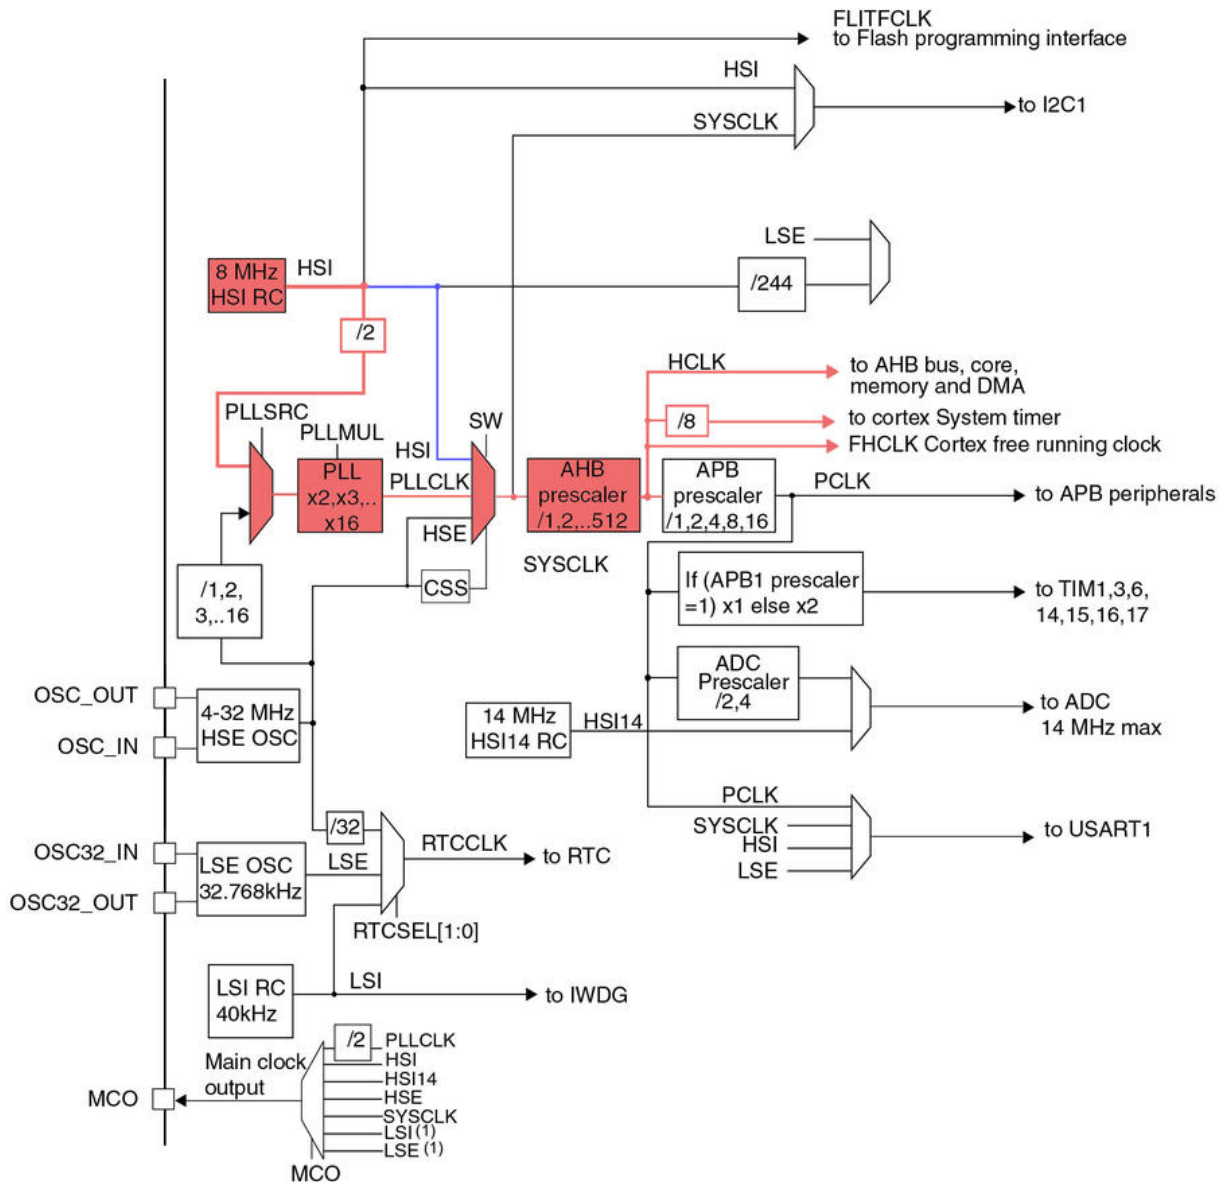
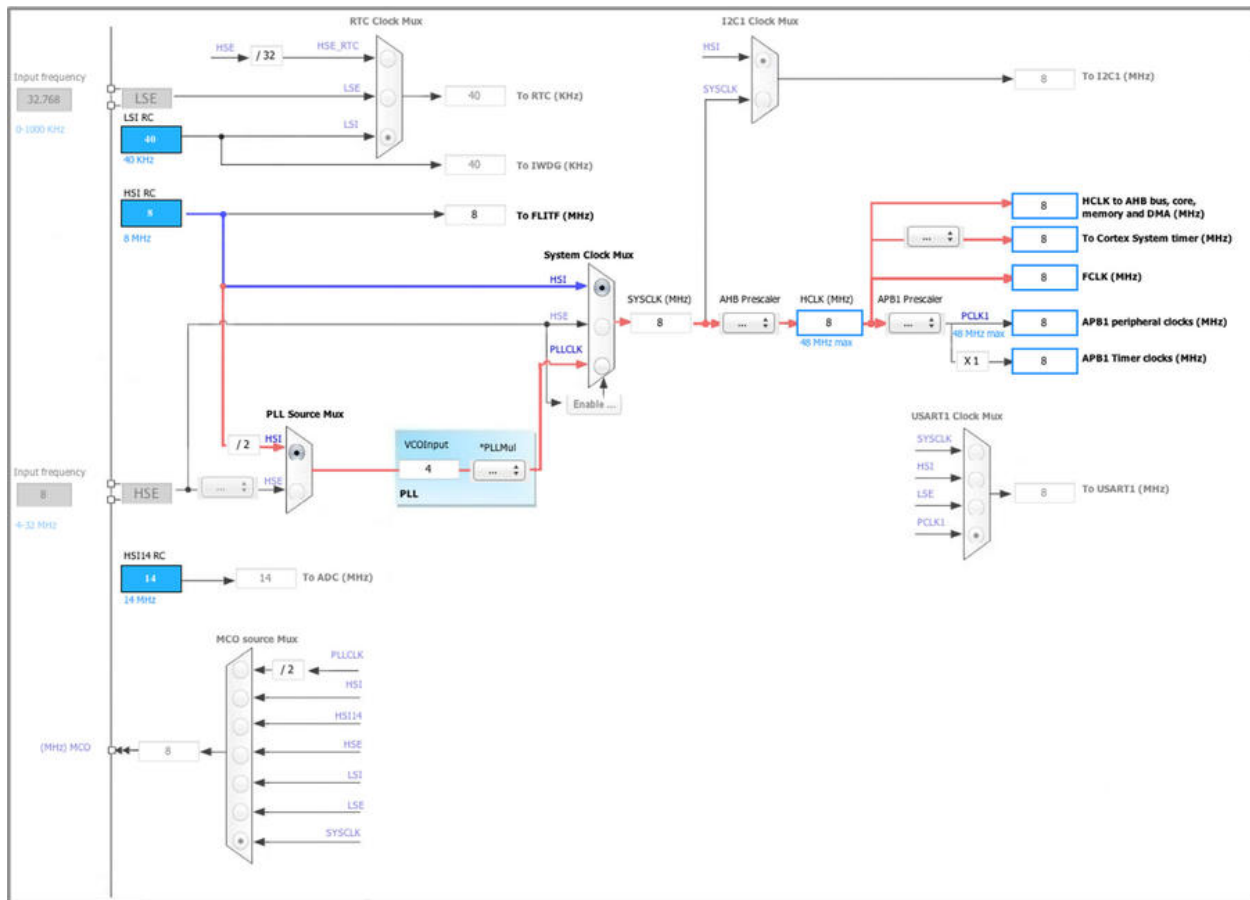

Figure 3: The clock tree of an STM32F030R8 MCU
Figure 4: How the clock tree of an STM32F030R8 MCU is represented in CubeMX
Figure 3 shows the clock tree of one of the simplest STM32 microcontrollers: the STM32F030R8. It is extracted from the related [reference manual](http://bit.ly/1GfS3iC)⁹ provided by ST. For a lot of novices of the STM32 platform that figure is completely meaningless and quite hard to decode, especially if they are also
The path starts from the internal 8MHz oscillator. As said before, it is an RC oscillator factory-calibrated by ST for 1% accuracy at a ambient temperature of 25 °C. The HSI clock can then be used to feed the *System Clock Switch* (SW) as is (path highlighted in blue in **Figure 3**) or it can be used to feed the PLL multiplier after it has been divided by two thanks to an intermediate prescaler¹⁰. The main PLL so can multiply the 4MHz clock up to 12 times to obtain the maximum *System Clock Frequency* (SYSCLK) of 48MHz. The SYSCLK source can be used to feed the I2C1 peripheral (in alternative to the HSI) and another intermediate prescaler, the AHB prescaler, which can be used to lower the *High (speed) Clock* (HCLK), which in turn biases the AHB bus, the core and the *SysTimer*.
We have already encountered in Chapter 4 the CubeMX *Clock Configuration* view. Now it is the right time to see how it works. The Figure 4 shows the clock tree of the same F0 MCU seen so far. As you can see, thanks to the more room available on the screen, the distribution network looks less cumbersome.
Even in this case, the most relevant paths of the clock tree have been highlighted in red and blue. This should simplify the comparison with the Figure 3. When a new project is created, by default CubeMX chooses the HSI oscillator as default clock source. HSI is also chosen as default clock source for the *System Clock Switch* (path in blue), as shown in Figure 4. This means that, for the MCU we are considering here, the Cortex-M core frequency will be equal to 8MHz.
core frequency we first need to select the PLLCLK as the source clock for the *System Clock Switch* and then choose the right PLL multiplier factor. However, CubeMX offers a quick way to do this: you can simply write “48” inside the HCLK field and hit the enter key. CubeMX will automatically arrange the settings, choosing the right clock tree path (the red one in **Figure 4**)